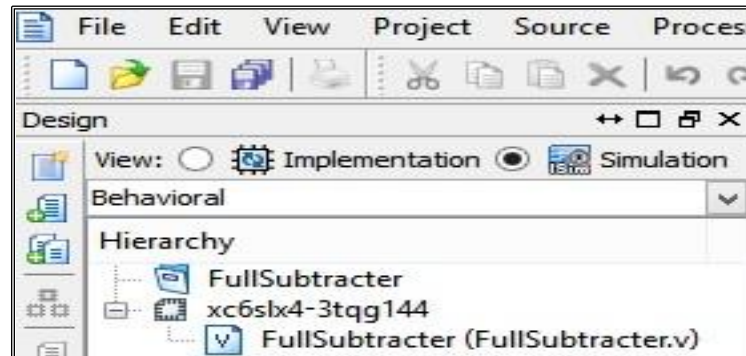

Fig 4.7: Simulation
9. Next, you have to write the desired full subtractor logic. For this example dataflow modeling is used (Fig 4.7). **Save** the file.